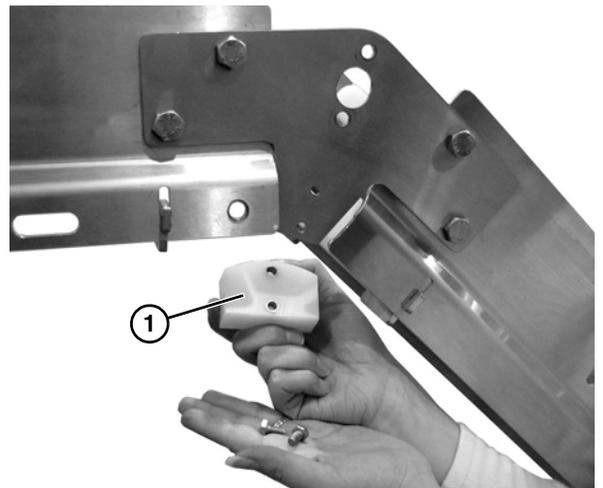

**Figure 62**
- Remove spacer (**Figure 62, item 1**), rollers (**Figure 62, item 2**) and tube spacers (**Figure 62, item 3**) from shaft.